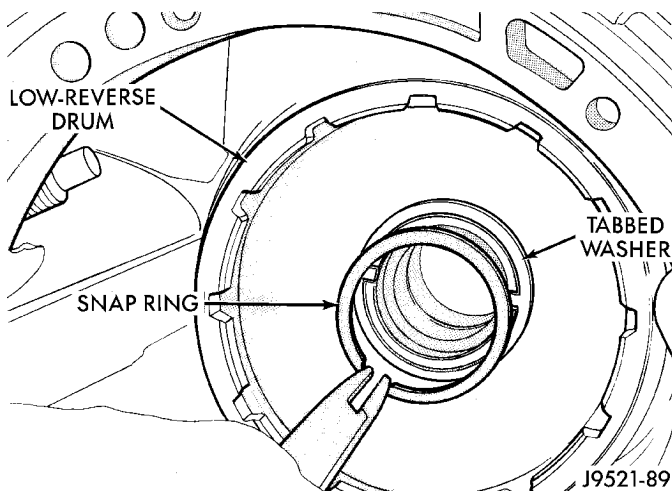

Fig. 115 Low-Reverse Drum Snap Ring
(25) Loosen rear band locknut and loosen adjusting screw 3-4 turns.
(26) Remove snap ring that retains low-reverse drum on overdrive piston retainer hub (Fig. 115).